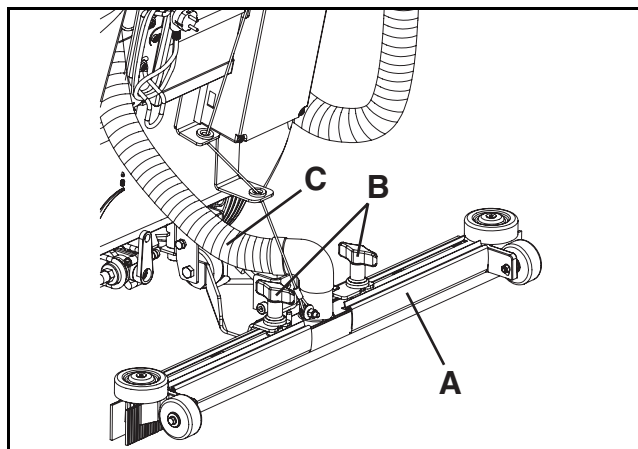

Figure 10
1. Install the squeegee (A, Fig. 10) and fix it by means of the squeegee knobs (B), then connect the vacuum hose (C) to the squeegee.